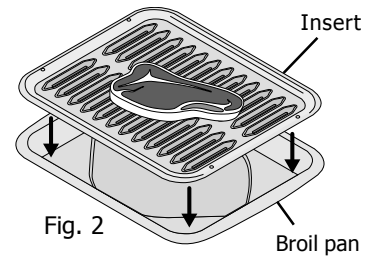

Fig. 2
5. Place the insert on broil pan (if equipped), then place food on broil pan insert (if equipped - See Fig. 2).